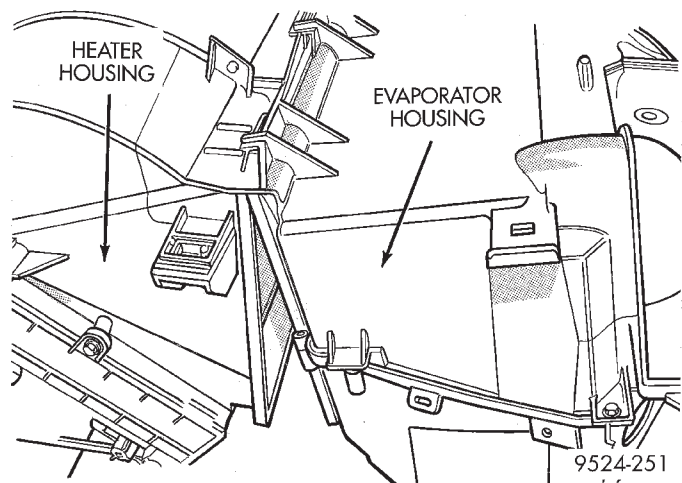
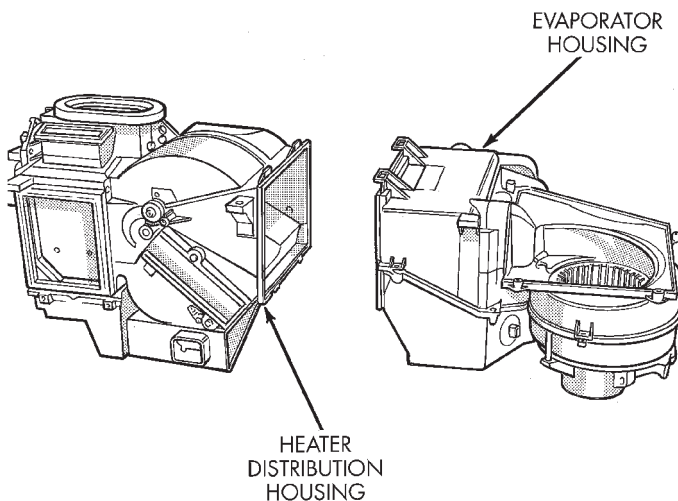
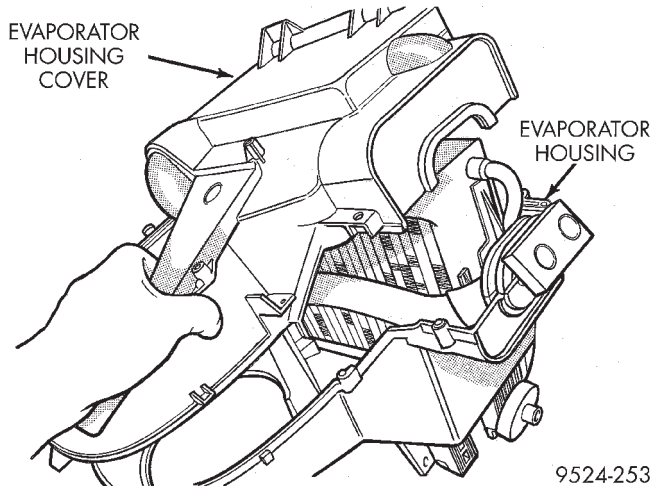

Fig. 37 Separate Housings
Fig. 38 Housings
Fig. 39 Evaporator Housing Upper Cover
(6) Separate evaporator housing from heater/distribution housing (Fig. 37) and (Fig. 38).
(7) Remove seal around evaporator tube inlet.
(8) Remove evaporator housing upper cover (Fig. 39).